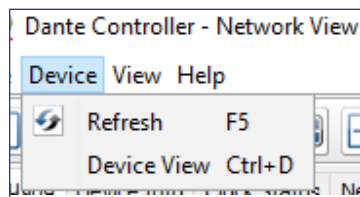

Figure 81. Opening Device View
4. From the Device menu, select **Device View** or press <Ctrl+D> on the keyboard (see figure 81).